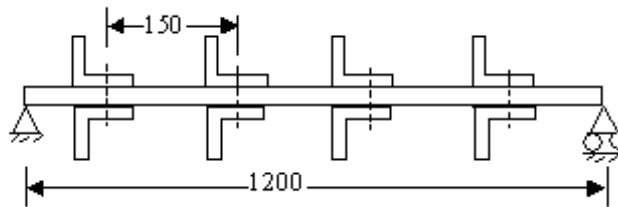

Figure 1b
- Determine the crippling stress of the panel, formed with hat-section stiffeners, as shown in figure 1b. Take $\sigma_{cy} = 470 \text{ MPa}$ and $E = 70 \text{ GPa}$ for stiffeners while $\sigma_{cy} = 280 \text{ MPa}$. [4+12]